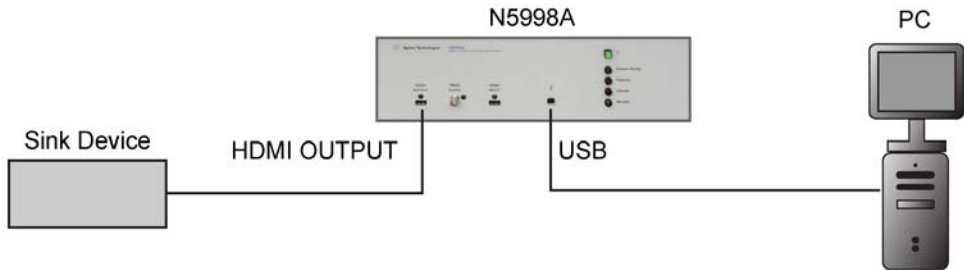

Figure 30 HDMI Video Timing Generator Setup
- 1 Connect the devices as shown in Figure 30.